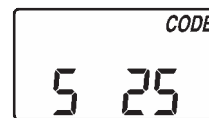

FIG. 51
- Press and hold the SELECT button for 3 seconds until a model code shows in the display, see Fig. 51.